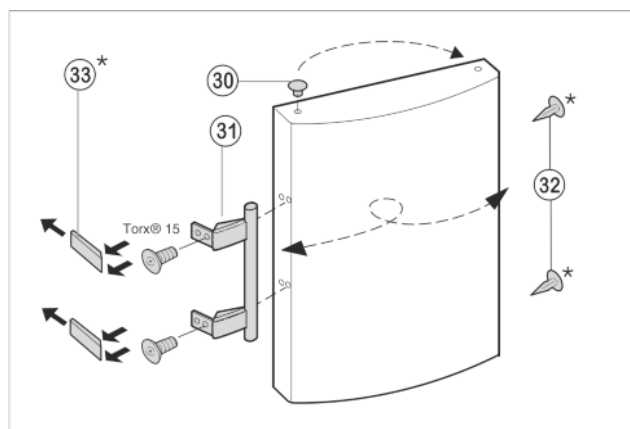

Fig. 10
- Lift the stopper Fig. 10 (30) out of the door bearing bush and transfer it.
- Detach door handle Fig. 10 (31), stoppers Fig. 10 (32) and pressure plates Fig. 10 (33) plates and transfer to the opposite side